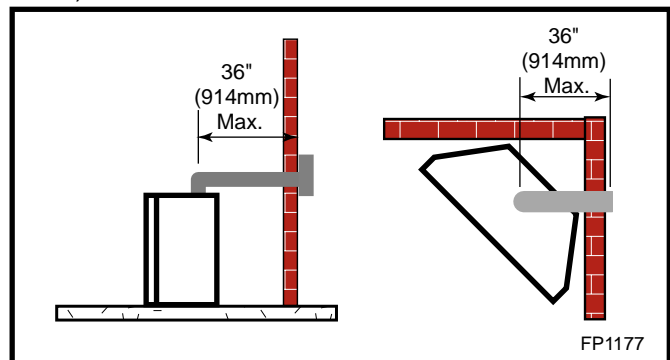

Fig. 24 Maximum horizontal run with no rise.
- If a 90° elbow is fitted directly on top of the fireplace flange, the maximum horizontal vent run before the termination or a vertical rise is 36 in. (914mm). (Fig. 24)